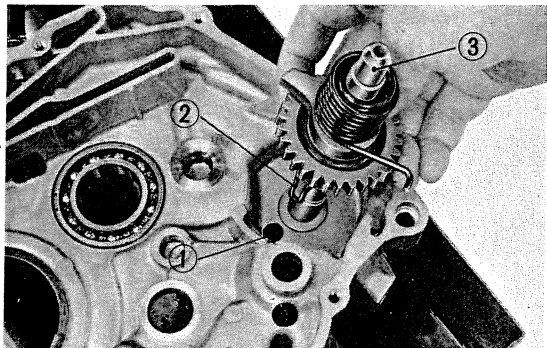

Fig. 92 Kick starter installation
2) Assemble the kick starter spindle into the right crankcase. (Fig. 92)